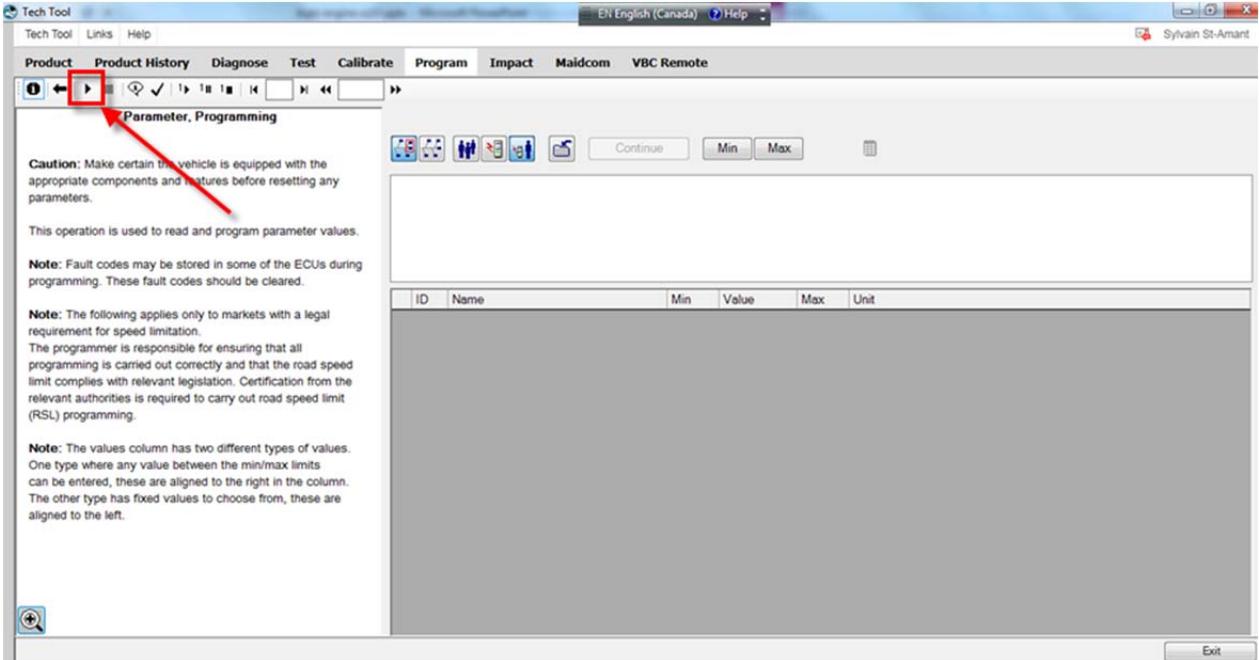

FIGURE 31
3. Click ► (play) (FIGURE 31).